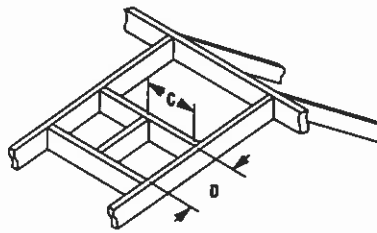

**FIGURE 22**
Analyze the vent routing and determine the quantities of vent sections and number of elbows required. Refer to **Vertical Vent Figures and Tables** on page 13 and 14 to select the type of vertical installation desired. Vent sections are available in net lengths of 4 1/2" (114 mm), 10 1/2" (267 mm), 22 1/2" (572 mm), 34 1/2" (876 mm) and 46 1/2" (1181 mm). Refer to the **Vent Section Length Chart** on page 10 for an aid in selecting length combinations. Elbows are available in 90° and 45° configurations. Refer to **Figure 22** for the SV4.5E45 and SV4.5E90 elbow dimensional specifications. Where required, a telescopic vent section (SV4.5LA) may be used to provide the installer with an option in installing in tight and confined spaces or where the vent run made up of fixed length pieces develops a joint in a undesirable location, or will not build up to the required length. The SV4.5LA Telescopic Vent Section has an effective length of from 1 1/2" (38 mm) to 7 1/2" (191 mm). The SV4.5LA is fitted with a locking inclined channel end (identical to a normal vent section component) and a plain end with 3 pilot holes. Slip the plain end over the locking channel end of a standard SV4.5 vent component the required distance and secure with three screws.
**F. Change vent direction to horizontal/inclined run** - At transition from or to a horizontal/inclined run, install the SV4.5E45 and SV4.5E90 elbows in the same manner as the straight vent sections. The elbows feature a twist section to allow them to be routed about the center axis of their initial collar section to align with the required direction of the next vent run element. Twist elbow sections in a clockwise direction only so as to avoid the possibility of unlocking any of the previously connected vent sections. See *Figure 22*.
**H. Change vent direction -** At transition from or to a horizontal/inclined run, install the SV4.5E45 and SV4.5E90 elbows in the same manner as the straight vent sections. The elbows feature a twist section to allow them to be routed about the center axis of their initial collar section to align with the required direction of the next vent run element. Twist elbow sections in a clockwise direction only so as to avoid the possibility of unlocking any of the previously connected vent sections. See Figure 22.